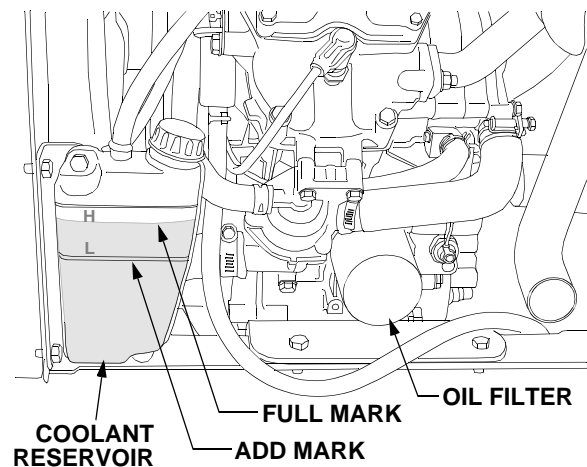

Figure 49
- Remove the filter by turning it counterclockwise using an automotive type filter wrench to loosen. See Figure 49.
- Raise the tractor hood and check the coolant level in the overflow reservoir on the *left* side of the engine. Refer to Figure 49.